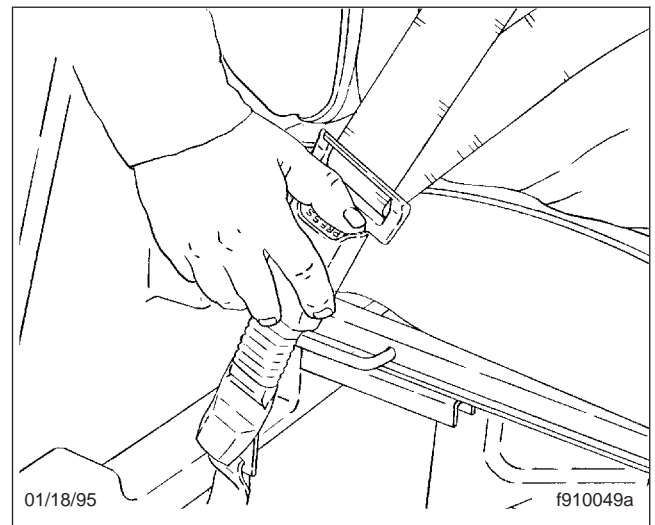

Fig. 3.17, Releasing the Three-Point Seat Belt
5. To unbuckle the three-point seat belt, push the button on the buckle as shown in Fig. 3.17. If the Komfort Latch was locked, release it by giving the shoulder belt a quick tug. If you lean forward against the shoulder belt, the Komfort Latch will automatically release, and will need to be reset.